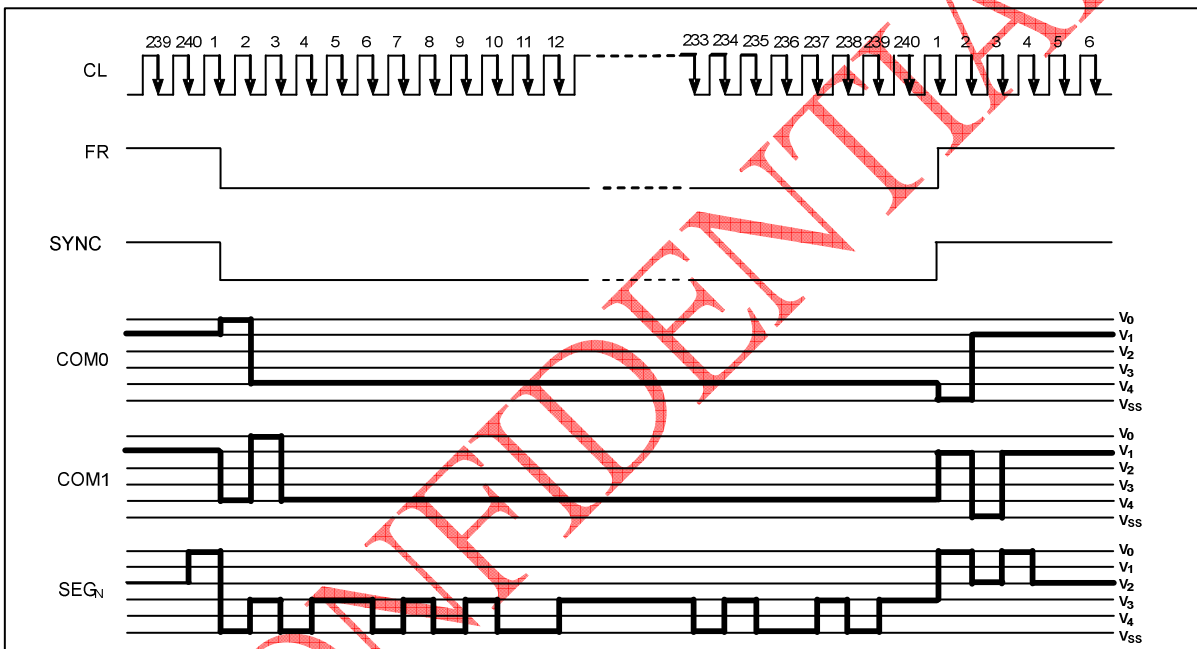

Figure 1. 2-frame Alternating Driving Waveform
This circuit generates some signals to be used for displaying LCD. The display clock, CL generated by oscillation clock, generates a clock to the line counter and a latch signal to the display data latch. The line address of on-chip RAM is generated in synchronization with the display clock (CL) and the 320-bit display data is latched by the display data latch circuit in synchronization with the display clock. The display data which is read to the LCD driver is completely independent of the access to the display data RAM from the microprocessor. The LCD AC signal, M is generated from the display clock. 2-frame AC driver waveforms with internal timing signal are shown in figure 1. It can generate n-line reversal alternating drive waveforms by setting data (NW-1) to the n-line reversal drive register, the timing signal are shown in figure 2.